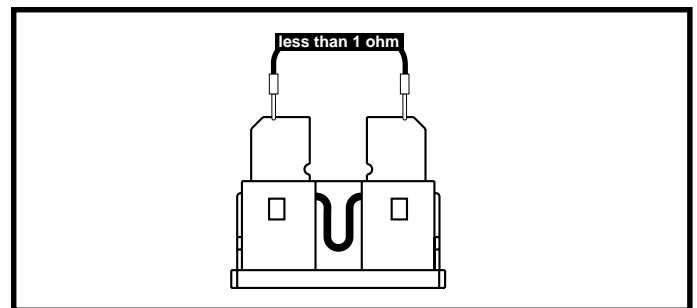

Figure 10. Fuse 5c
25. Measure resistance across the two fuse blades. **See figure 10.**